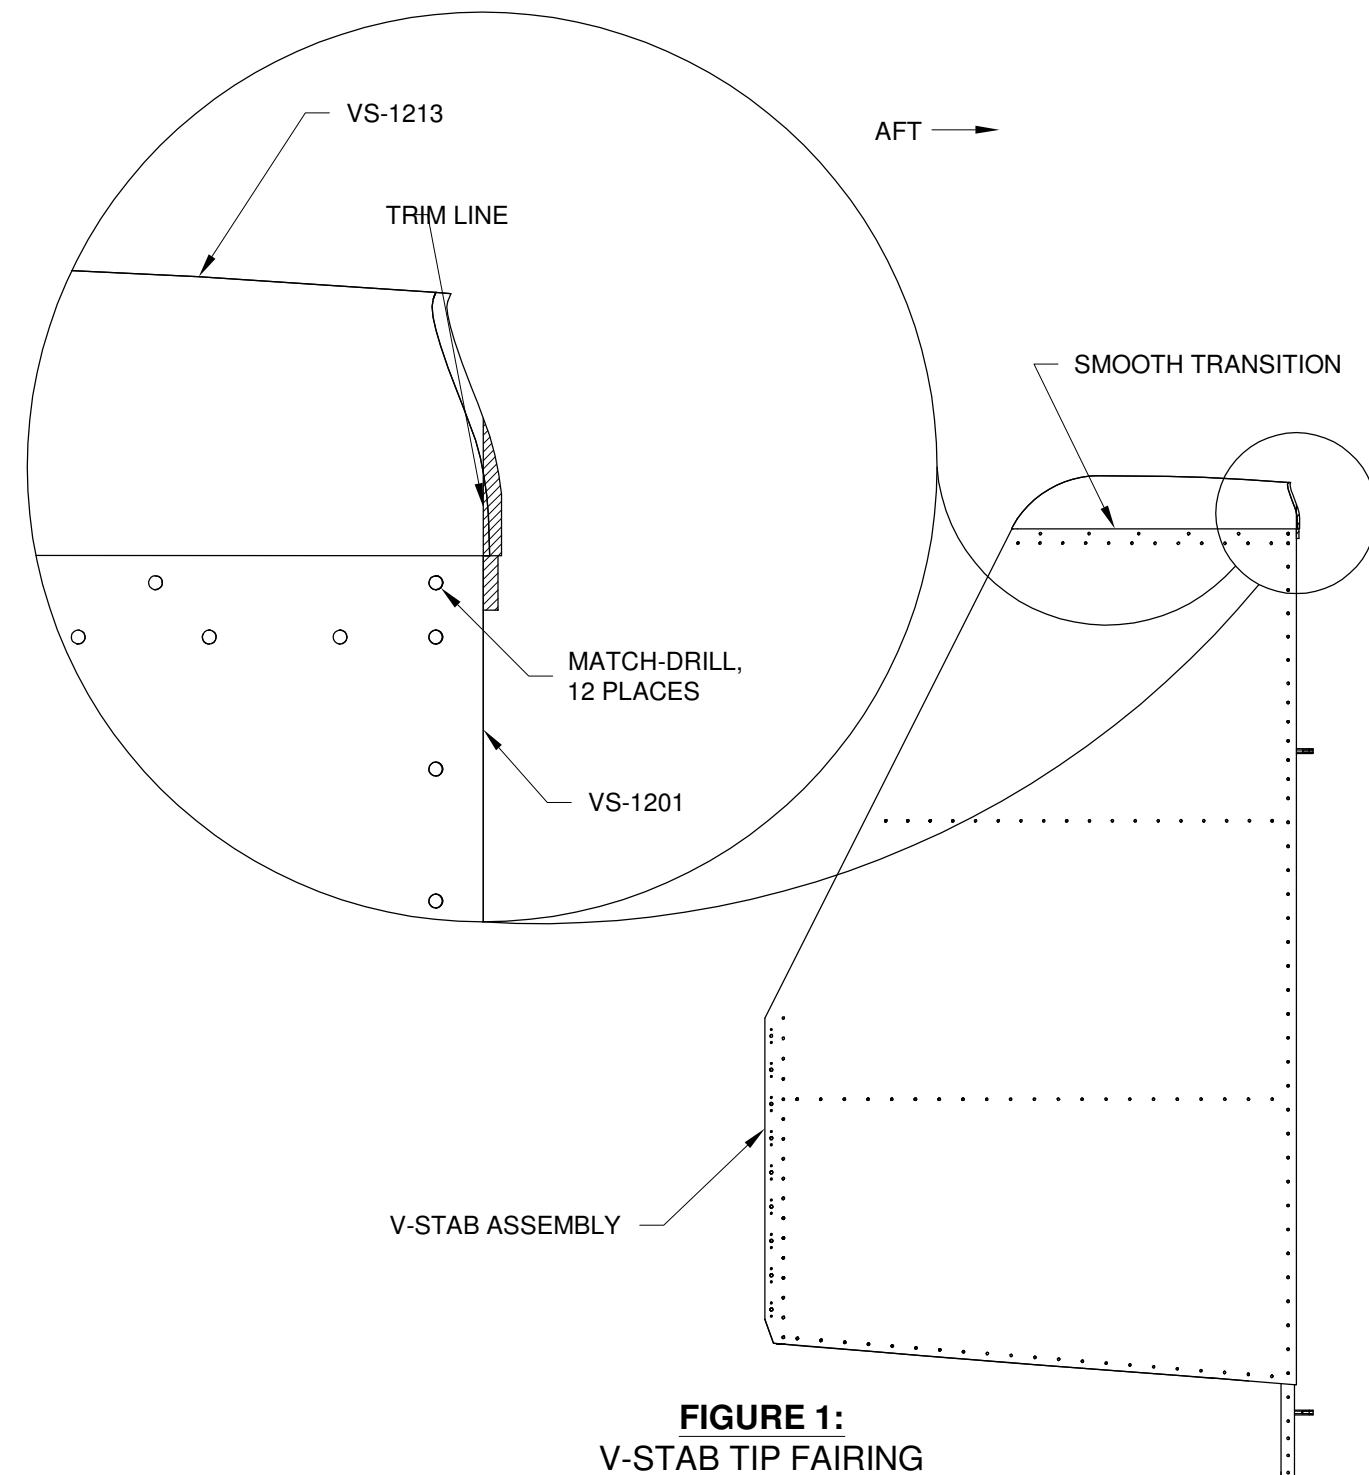

FIGURE 1:
Step 1: Place the VS-1213 V-Stab Tip Fairing onto the V-Stab Assembly. The edge of the recessed area of the v-stab tip fairing must be flush against the entire top edge of the VS-1201 Main Skin as shown in Figure 1.
Step 2: With the VS-1213 V-Stab Tip Fairing in place, Match-Drill #30 the holes from the VS-1201 Main Skin into the v-stab tip fairing as shown in Figure 1. Cleco each hole before drilling the next.
Step 3: Make a smooth transition from the surface of the v-stab tip fairing to the surface of the VS-1201 Main Skin. Remove the v-stab tip fairing, sand the surface of the fairing where necessary, then check and repeat until the transition is smooth. Mark the fairing with a trim line that follows the aft edge of the VS-1201 Main Skin as shown in Figure 1.